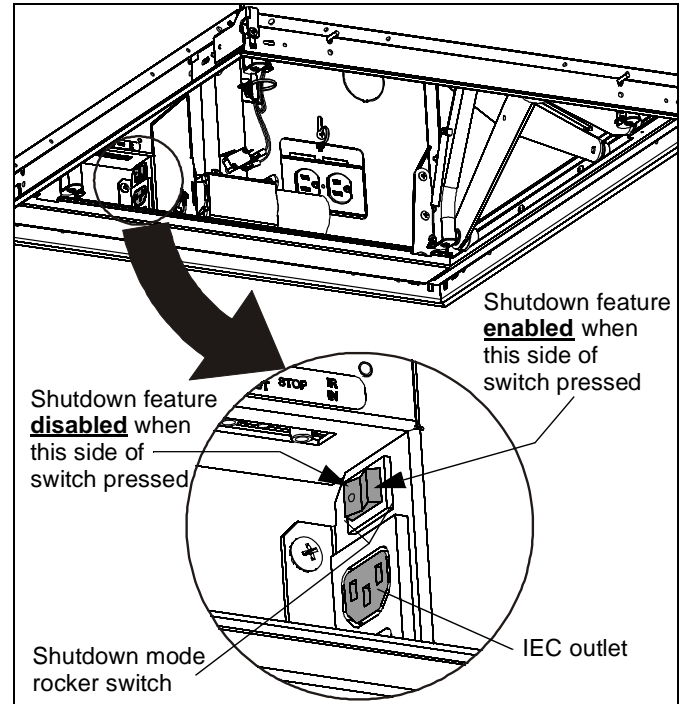

Figure 26
By default, this feature is disabled. To enable or disable this feature, use the rocker switch directly above the IEC outlet. To **enable** depress the blank side of rocker switch. To **disable** depress the white dot side of rocker switch. The projector **MUST** be plugged into the IEC outlet in order for this feature to function. (See Figure 26)
NOTE: Projector **MUST** be plugged into the IEC outlet located within the lift. (See Figure 26)
2. Make sure Projector Shutdown Mode is disabled. (See Figure 26)